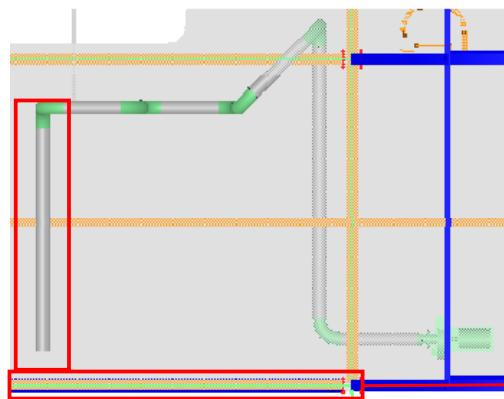

Figure 27: Placed Pipe
40. Move the cursor to the grid line highlighted in Figure 27 to add it to the SmartSketch list. Then, move the cursor upwards to locate the projection line displayed by the system at **2 ft** offset from the grid line.